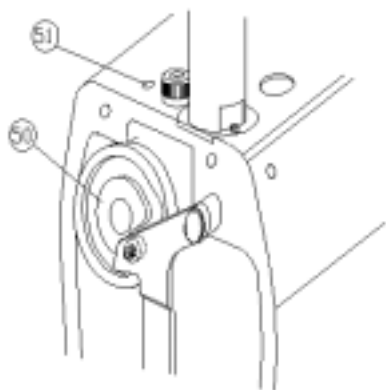

FIG.20
Keeping the needle bar in the position described above, turn the control cam (50) on its own axis in the direction of rotation of the machine until the tip of the hook is 1 mm higher than the tip of the needle. The clamping screws are accessible from the hole (51) in the upper part of the arm. FIG. 20. Before fully tightening the cam controlling the movement of the hook, bit into contact with the roller and then move bottom of the cam track.